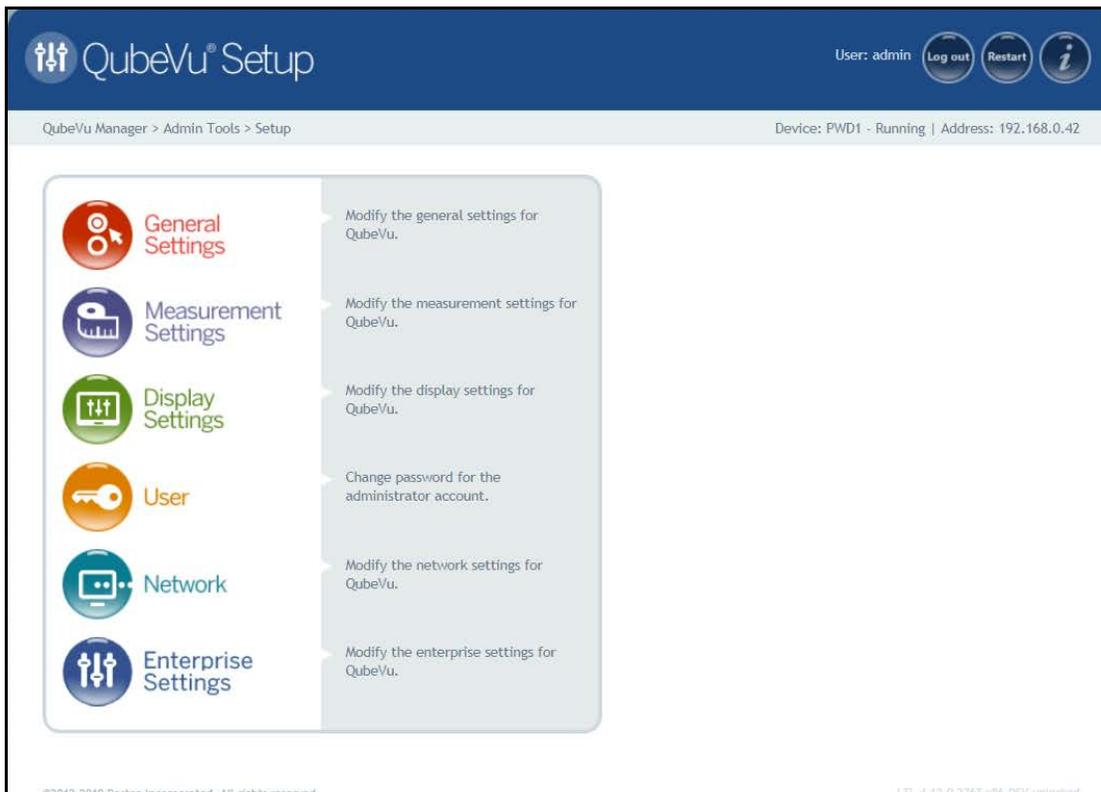

Figure 3-1. Setup Menu
- Press  **General Settings** from the **Setup** menu (Figure 3-1 on page 8) to enter the **General Settings** menu
4. Press  **Measurement Settings** from the **Setup** menu (Figure 3-1 on page 8) to enter the **Measurement Settings** menu.